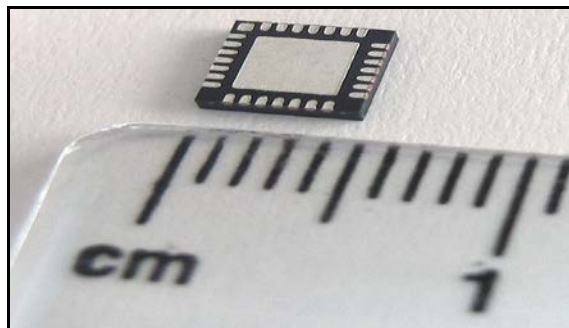

Figure 1. A QFN showing its leads and thermal pad
QFNs are close to the size of a chip-scale package. In addition to having no leads, QFNs have a thermal pad to conduct heat out of the integrated circuit (IC) in the QFN into the printed wire board (PWB). Figure 1 shows a QFN with its leads and thermal pad.